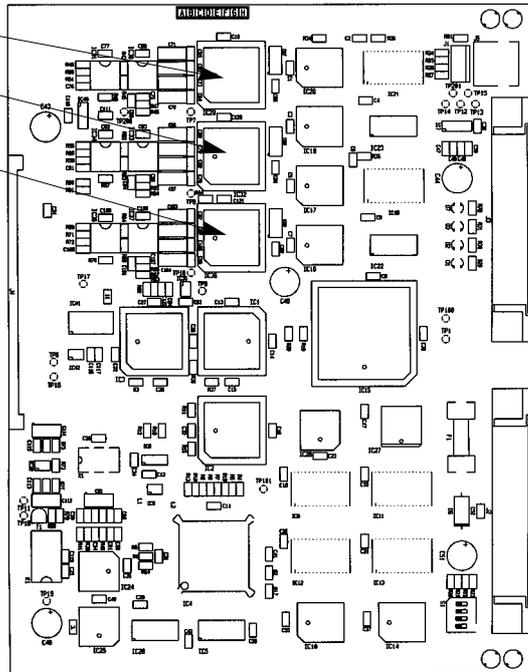

Fig. 2
-  Use only the correct PLCC removal tool to remove the A/D converter. (An example is shown on page 4•7c fig. 2).